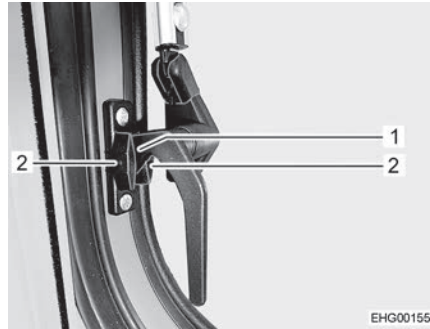

Fig. 42 Catch lever, on the side ("continuous ventilation" position)
- Turn the catch levers on the side a quarter turn downwards. While doing so, drive locking catch (Fig. 42,1) in between the two halves of the locking block.